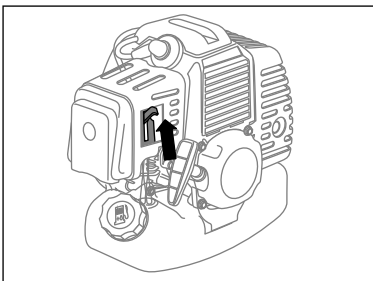
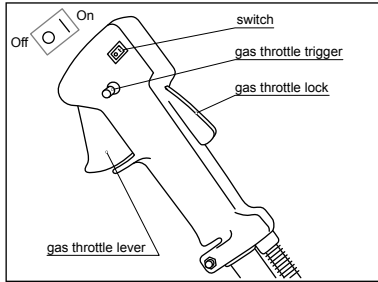

fig. 11
fig. 14
- Move the air valve lever upwards to position $|/|$ (fig. 11). Turn the switch on the control lever to the "On" position (fig. 14).
- Smoothly press the gas throttle lever, bringing the engine to its maximum speed and start operating the unit (fig. 14). To mow, hold the trimmer firmly with both hands on the handles.